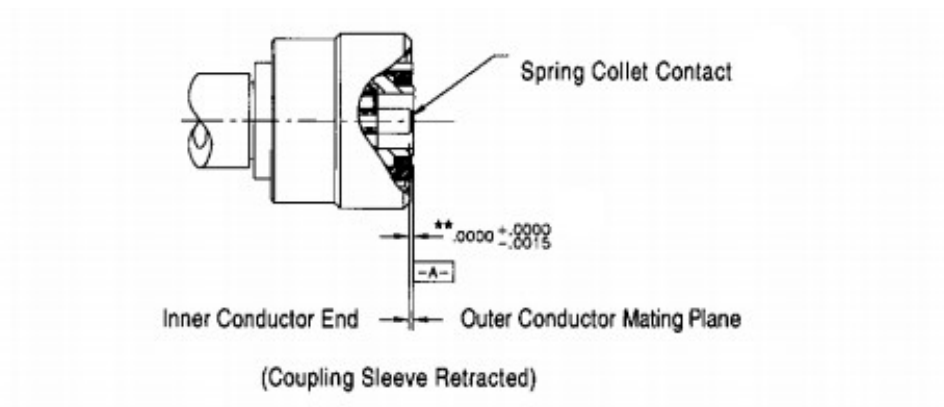

Figure 6. Interface Requirements for 7mm Connector
7. Adjust the center conductor position so that it is within the specified interface dimension for a 7mm connector. (See Figure 6). Tighten the center conductor locking mechanism.